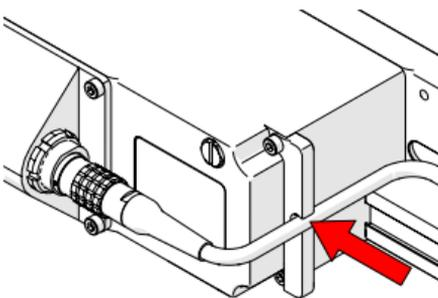

Fig. 50 - Press raster arm cable into cable bracket
2. Press the raster arm cable into the cable bracket on the side of the raster arm encoder housing (Fig. 50).